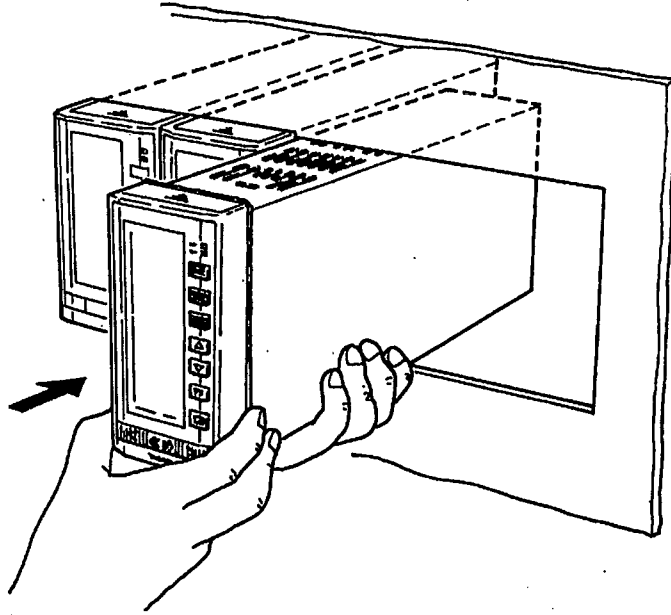

Figure 2.4 Installing Multiple Units for Flush Mounting
(2) When Installing Multiple Units for Flush Mounting
- ① Place the units in the order of installation, and place the side panel of the unit flush with the side panel of the next unit. Then, insert the units in the panel (see Figure 2.4).
- ② For installation of other units, perform the same procedure as for item (1).